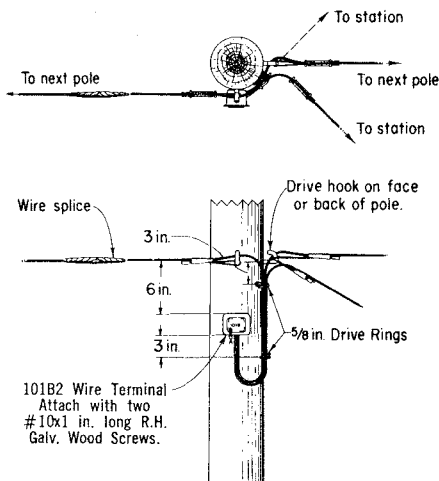

**Fig. 8 — Distributing Wires from Pole Other Than Terminal Pole**
**3.09** Distribute drop wires as illustrated in Fig. 8.